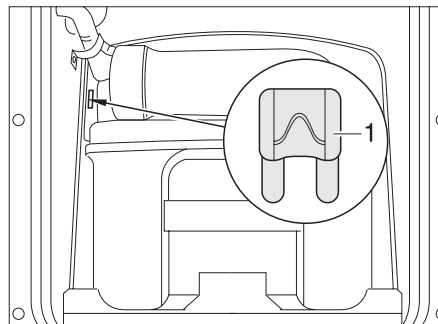
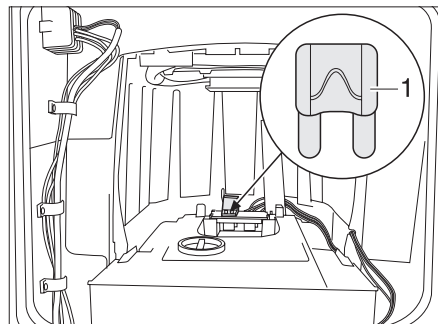

Fig. 100 Fuse for the Thetford toilet
Fig. 101 Fuse for the Thetford toilet (alternative)
- ▶ Replace fuse (Fig. 100,1 or Fig. 101,1).